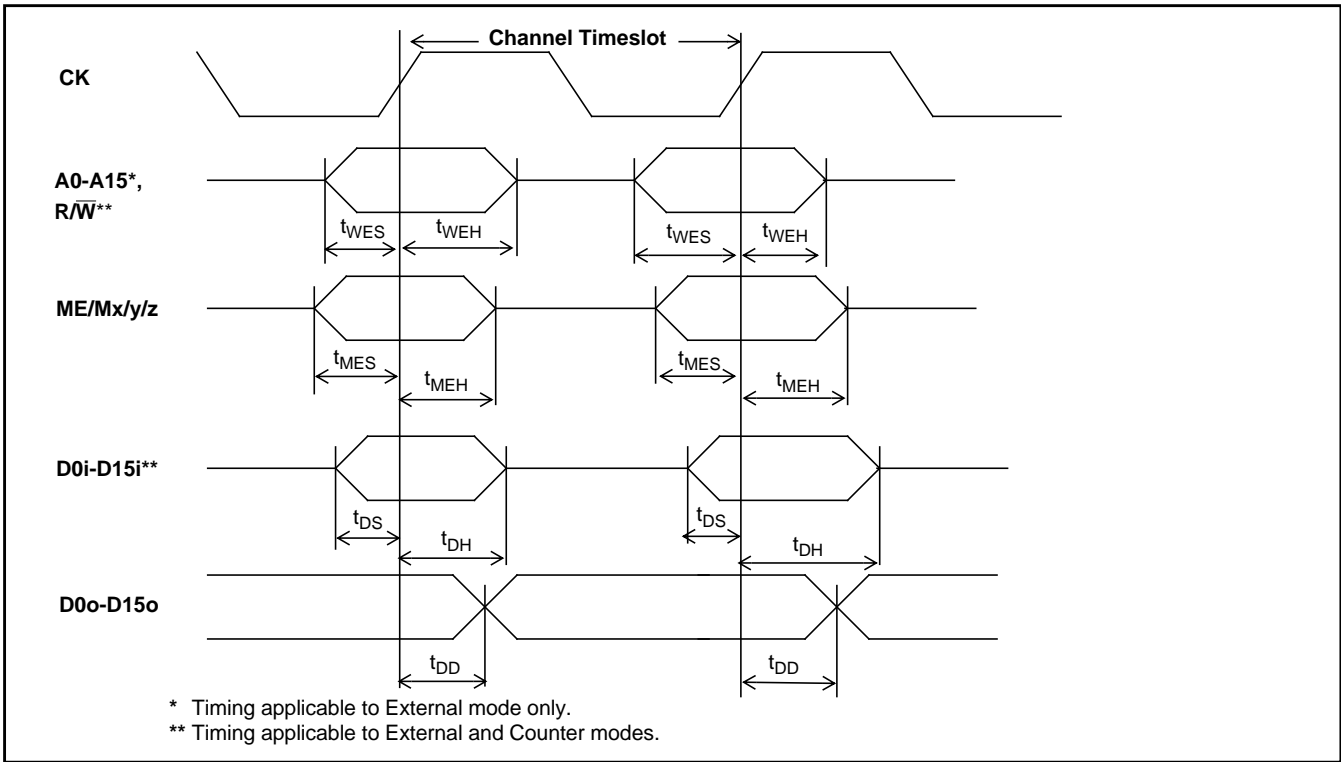

Figure 26 - External, Connect Memory-2 and Counter Mode Timing
**AC Electrical Characteristics† - External, Connect Memory-2 and Counter Mode Timing (See Fig. 26)** - Voltages are with respect to Ground ( $V_{SS}$ ) unless otherwise stated.